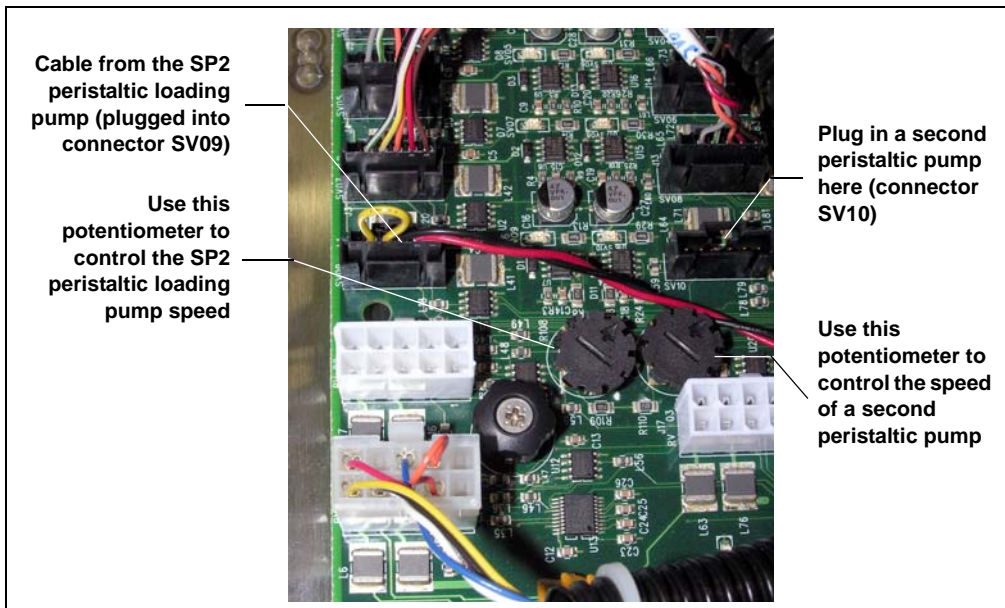

Figure 10-12. SP Electronics Board: Cable Connections and Potentiometers for Peristaltic Pumps
When a peristaltic pump is installed in the SP, one of the solenoid valve connectors on the SP electronics board (typically SV9) is assigned to control the peristaltic pump (instead of controlling a solenoid valve). A cable from the pump plugs into the SP electronics board (see Figure 10-12). Turning the associated potentiometer changes the voltage to the pump, and thus, the pump speed and flow rate.
3. Locate the two potentiometers on the left side of the SP electronics board (see Figure 10-12). The potentiometer farthest to the left (at position **R108** on the board) controls the speed of the peristaltic loading pump installed in an SP2.
NOTE If two peristaltic loading pumps are installed in the SP, the cable for the second pump is plugged into position SV10 on the board (see Figure 10-12). The potentiometer on the right (at position R107 on the board) controls the speed of the second pump.